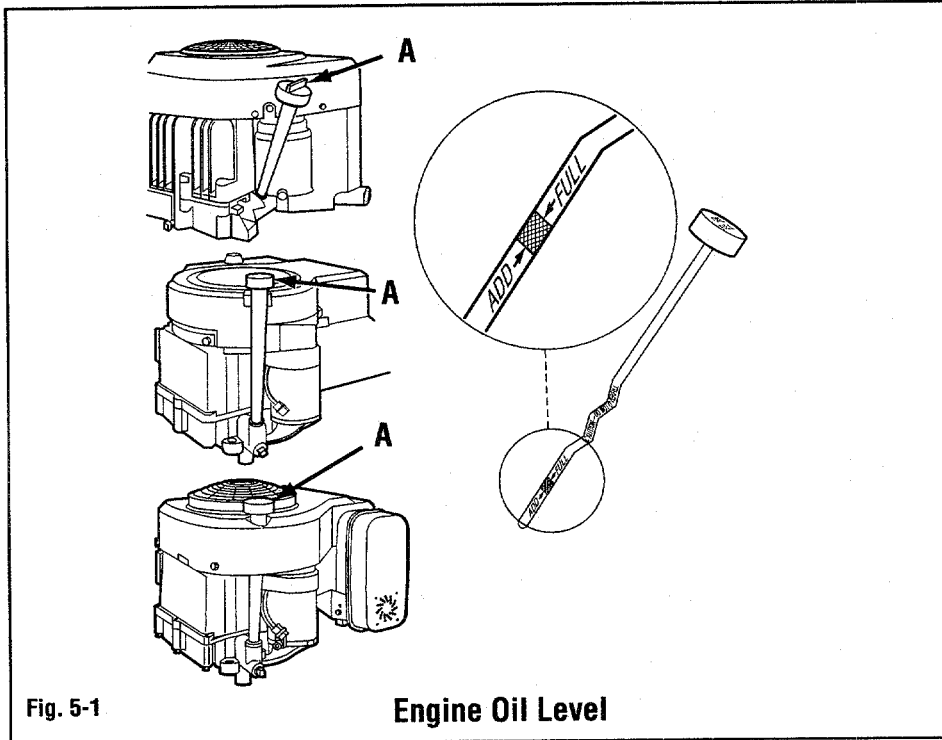

Fig. 5-1
- a. Remove oil dipstick (A, Fig. 5-1). Wipe oil from dipstick with clean cloth.
- c. Remove dipstick and check oil level. Oil level is indicated by marks on dipstick. Level should be between "Full" and "Add" marks (Fig. 5-1).